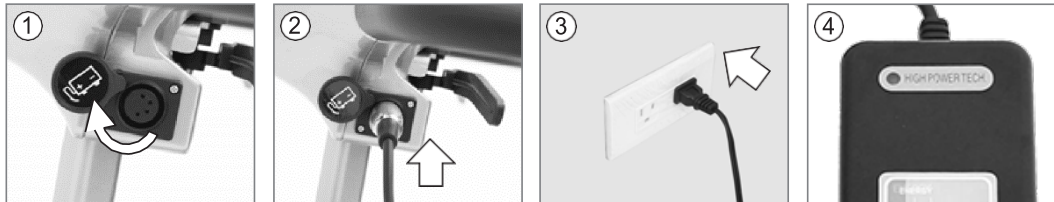

Figure 31
**Upper Charge Port (Figure 31)**